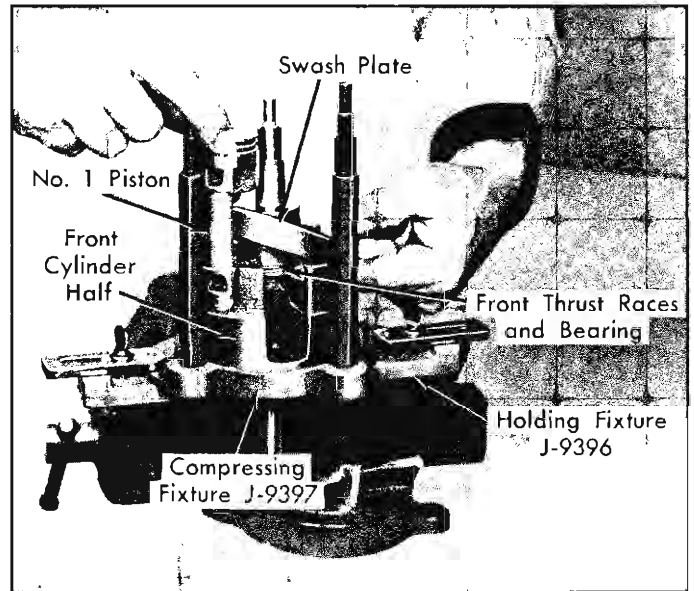

Fig. 32—Installing Piston, Front Ball and Shoe and Rear Ball
8. Rotate the shaft and swash plate until the high point of the swash plate is directly over the cylinder bore previously designated as No. 1. Lift up slightly on the shaft and swash plate assembly, insert the front (notched) end of the No. 1 piston into the cylinder bore, and at the same time, place the front ball and shoe and the rear ball only over the swash plate (fig. 32).